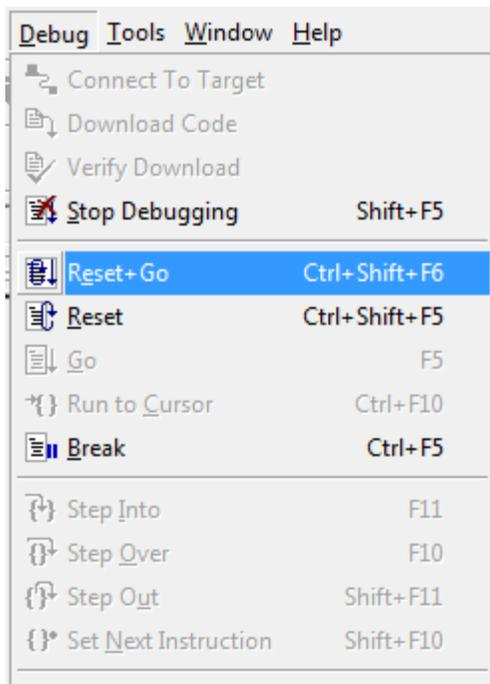

Figure 11. Select Reset+ Go from the Debug Menu
13. To run the application, select **Reset+Go** from the **Debug** menu, as indicated in Figure 11. As a result, LEDs D7, D8, and D9 will blink in sequence.